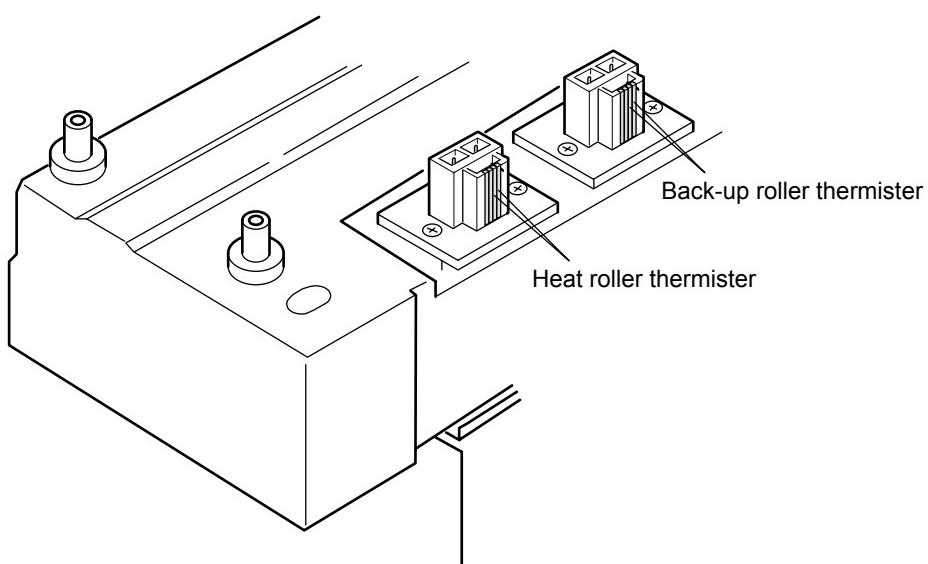

Figure 5.1
⑤ Fuser unit error
- (A)
- Yes Is the heat roller thermister disconnected or generating a short circuit? (See Fig. 5-1) (Approx. 190k-980k. in room temperature of 0-43 degrees Celsius.)
- No Is the back-up roller thermister disconnected or generating a short circuit? (See Fig. 5-1) (Approx. 190k-980k. in room temperature of 0-43 degrees Celsius.)
- No Proceed to (A).